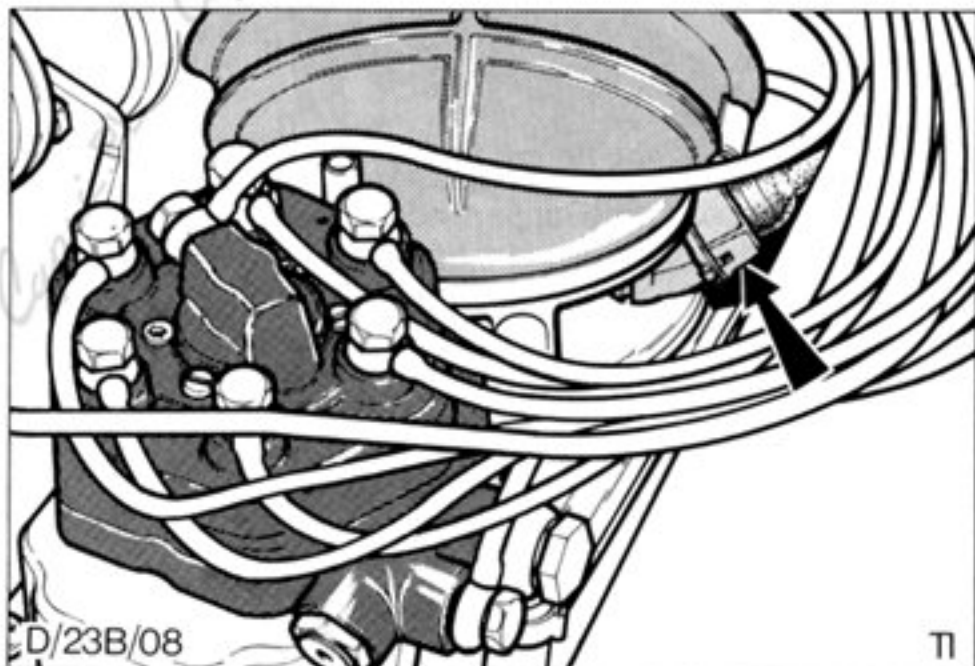

Fig.54 Mixture control unit safety switch plug.
- (i) Mixture control unit safety switch, Fig.54.